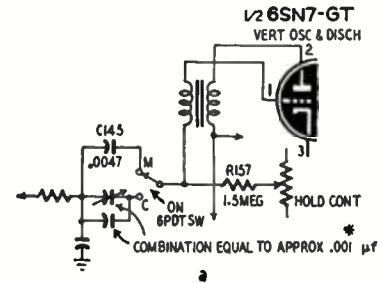

Fig. 6—Color changes, Synchroguide; Colortone unit uses similar circuits.
The Colortone adapter uses a circuit similar to that shown in Fig. 6. It is mounted externally and multilead cables are used. All color-position parts are located in the adapter and a few of the monochrome parts are removed from the receiver because they are duplicated in the adapter.
1. Removal of .0047- μ f time-constant capacitor (C145) in the grid circuit of vertical blocking oscillator. This capacitor is replaced by a similar capacitor in the adapter plus one of a lower value for the color field rate, Fig. 6-a.
2. Removal of the 180- μ f capacitor (C158) that sets the frequency of synchroguide oscillator. This capacitor is also replaced (at the factory) by a similar one in the adapter and a separate trimmer for color position, Fig. 6-b.
3. The .0022- μ f sawtooth-forming capacitor (C161) is removed from the horizontal circuit. This is duplicated by a similar capacitor in the adapter and one of a still lower value is switched in for color, Fig. 6-b.